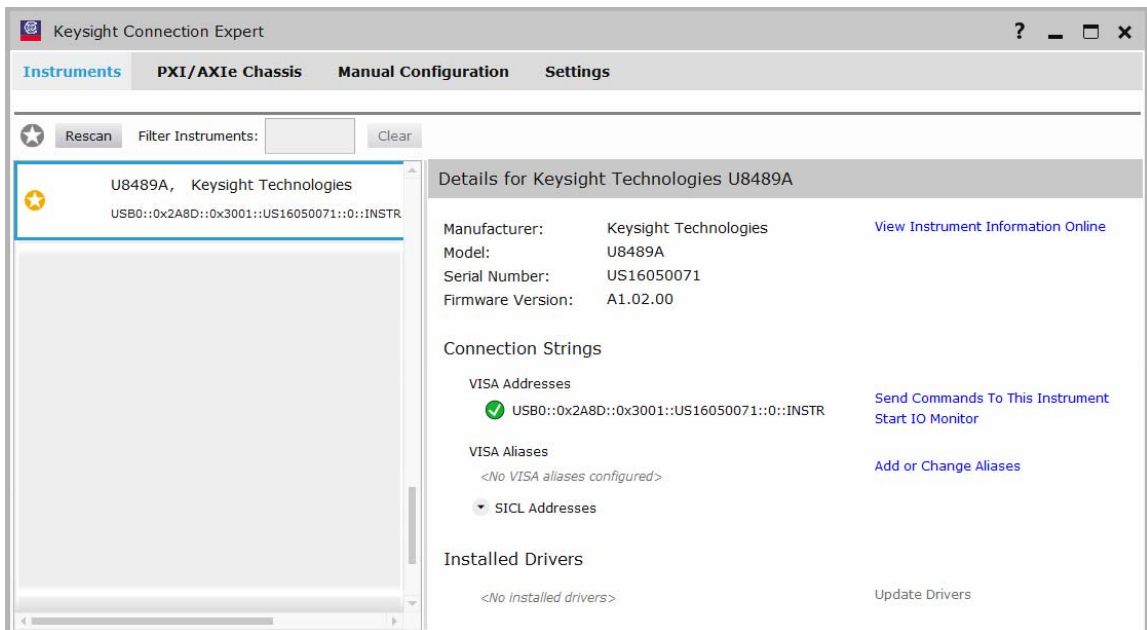

Figure 1-3 Auto-locate a USB instrument in Keysight Connection Expert
| Figure 1-3 | Auto-locate a USB instrument in Keysight Connection Expert | 17 |
- 2 Launch the Keysight Connection Expert by selecting the IO icon (). Auto-locate the sensor as shown in Figure 1-3. Click **Rescan** to start searching.